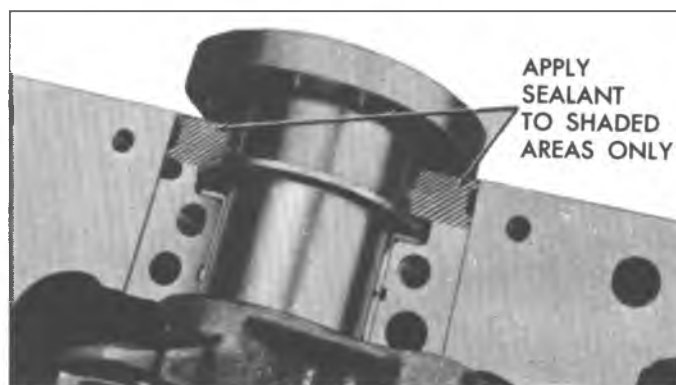

Fig. 14L—Sealing Bearing Cap
12. Install bearing cap to case with sealant applied to the cap-to-case interface, being careful to keep sealant off the seal split line (fig. 14L).